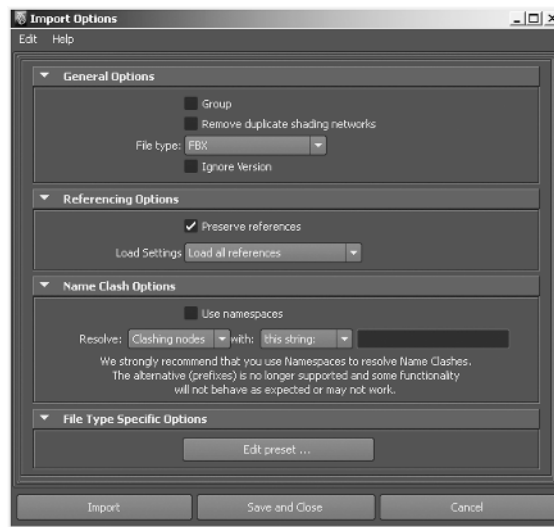

Figure 1.43
16. Choose File → Import, and change File Type to FBX. Also deselect Use Namespaces, and use the settings shown in Figure 1.43.